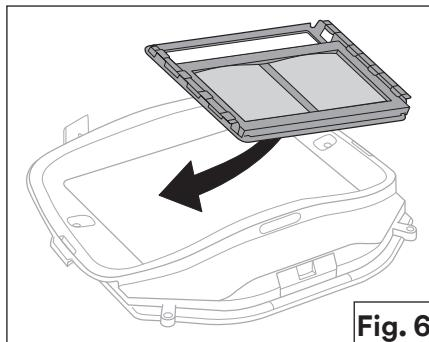

Fig. 6b
- b. Set the lens holder onto the front of the ADF (Fig. 6b).